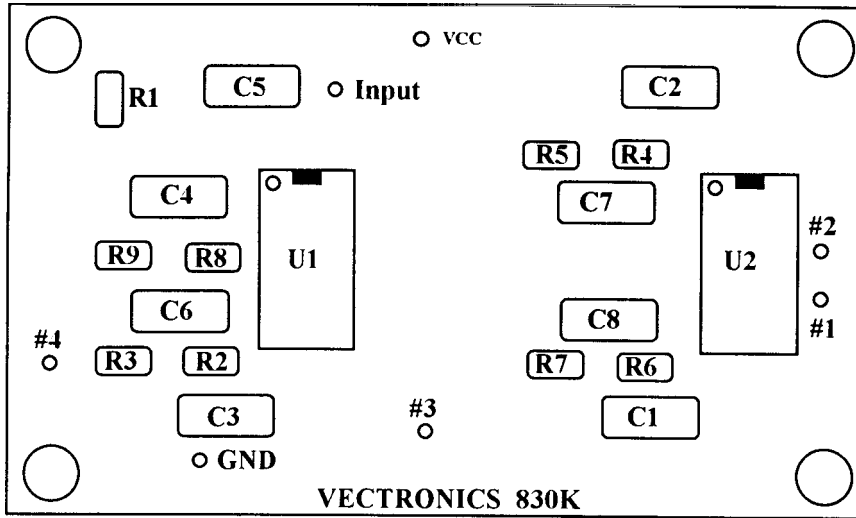

Figure 1
- 32. Locate one (1) 6" insulated wire. Cut this wire in half, making two (2) 3" pieces.
- □ 39. Locate (1) 14 pin IC
- □ 40. Install the IC socket at the U 1 location on the circuit board. Be careful to orient the socket correctly according to the "Parts Placement" section Figure 1.
- □ 43. Install the IC socket at the U2 location on the circuit board. Be careful to orient the socket correctly according to the "Parts Placement" section Figure 1.
- □ 46. Locate the 4P4T slide switch (SW)
Placement" section Figure 1 for the location of the point labeled GND on the circuit board.
A newly constructed filter that fails to work upon initial power up, generally requires a very close and careful inspection of all work. Please go back through all steps of assembly and inspection, referring to the "Parts Placement" Figures 1, 2, and 3. Most of the time there will be a part that is not installed or not installed properly, a wrong value part in place of another, or a broken part. A close inspection at this point will reveal some accidental mistake(s).